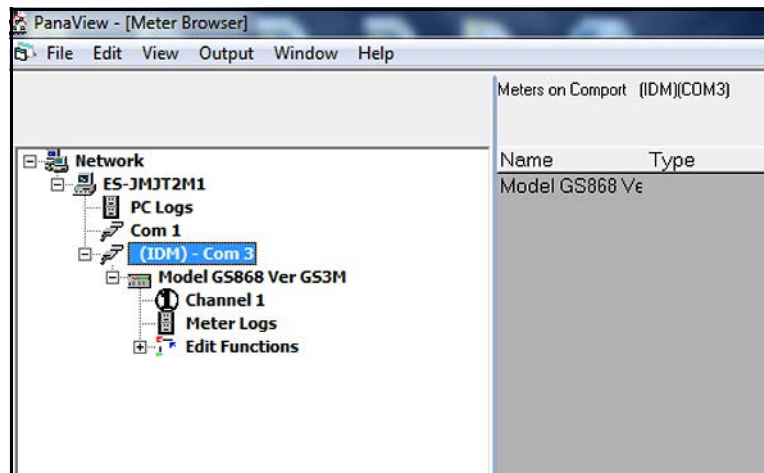

Figure 40: The Serial Port Branch
2. Fully expand the *network tree* and highlight the chosen communication port (see *Figure 40* below).